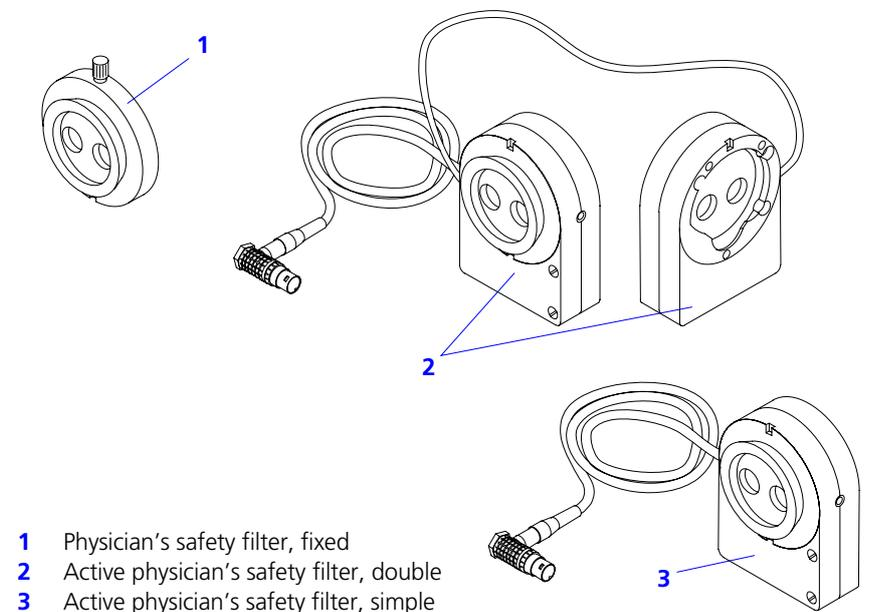

Fig. 37 Intraocular probe
- Select the physician's safety filter used "**Fixed**" (1, Fig. 37) or "**Active**" (2 or 3, Fig. 37).